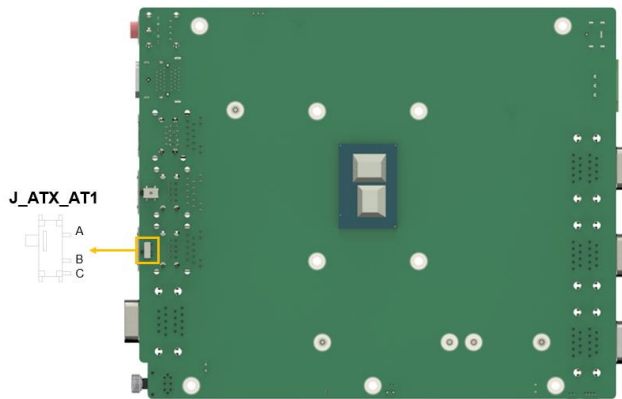

Figure 4-3: AT/ATX Power Mode Switch Locations
- CN Location:** See Figure 4-3